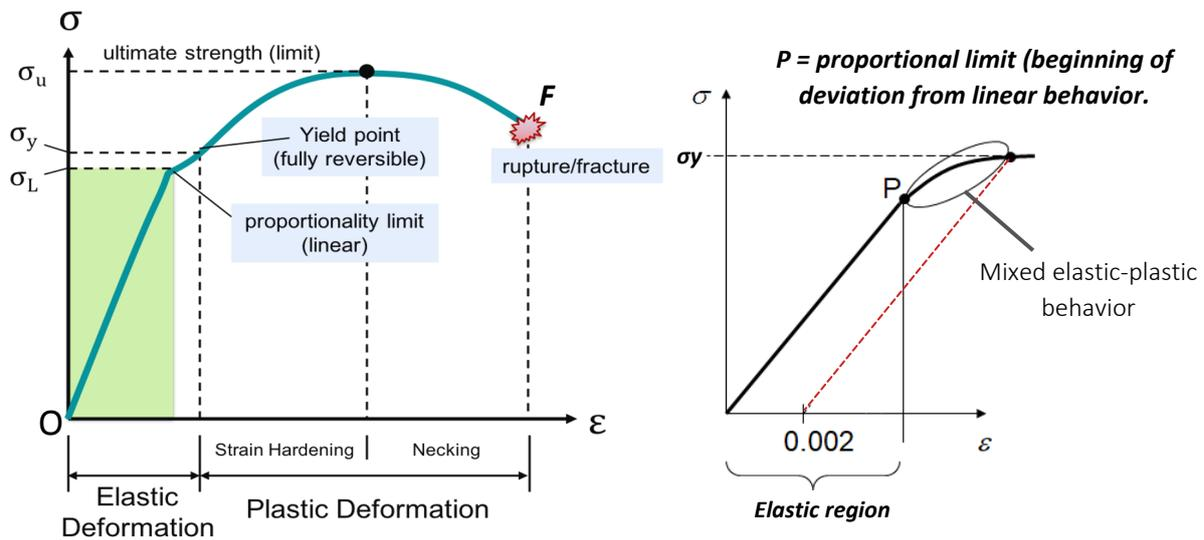

Figure 3.13 : (a) Tensile properties for plastic deformation (b) Stress-strain curve - 0.2% offset yield strength
- The transition point between elastic and plastic deformation (Figure 3.13 (a)).
- From the origin O to the point called proportional limit, the stress-strain curve is a straight line (Figure 3.13 (a)).
- In **Figure 3.13(a)** the curve proceeds to a maximum at which point the curves downward toward the fracture point. The maximum corresponds to the tensile strength σ_u .
- In **Figure 3.13(a)**, the point at which the material ultimately breaks, indicated by F.